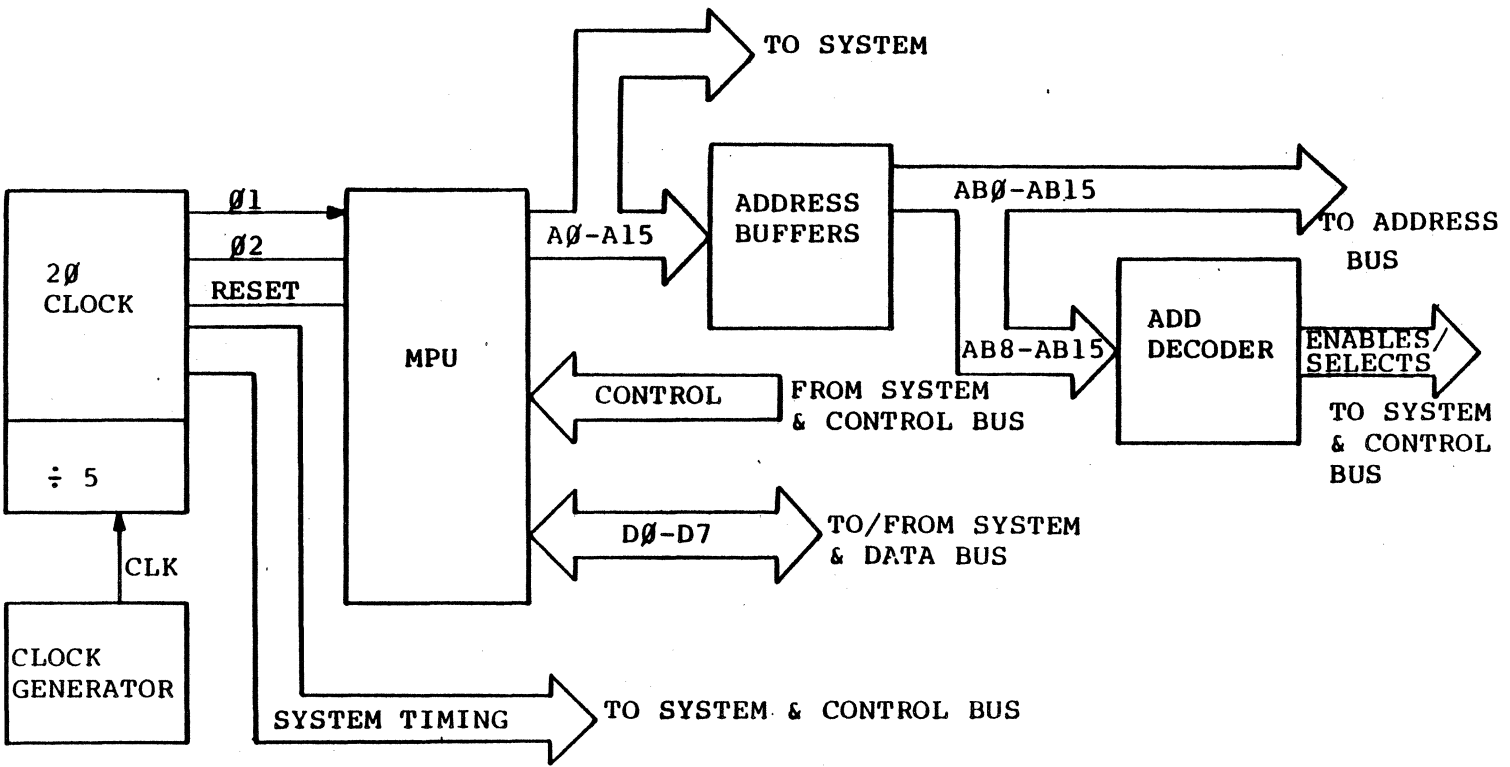

Figure 6-2. CPU Section Detailed Block Description
6.3.1 CPU Section (Figure 6-2, Schematic Sheet 2)